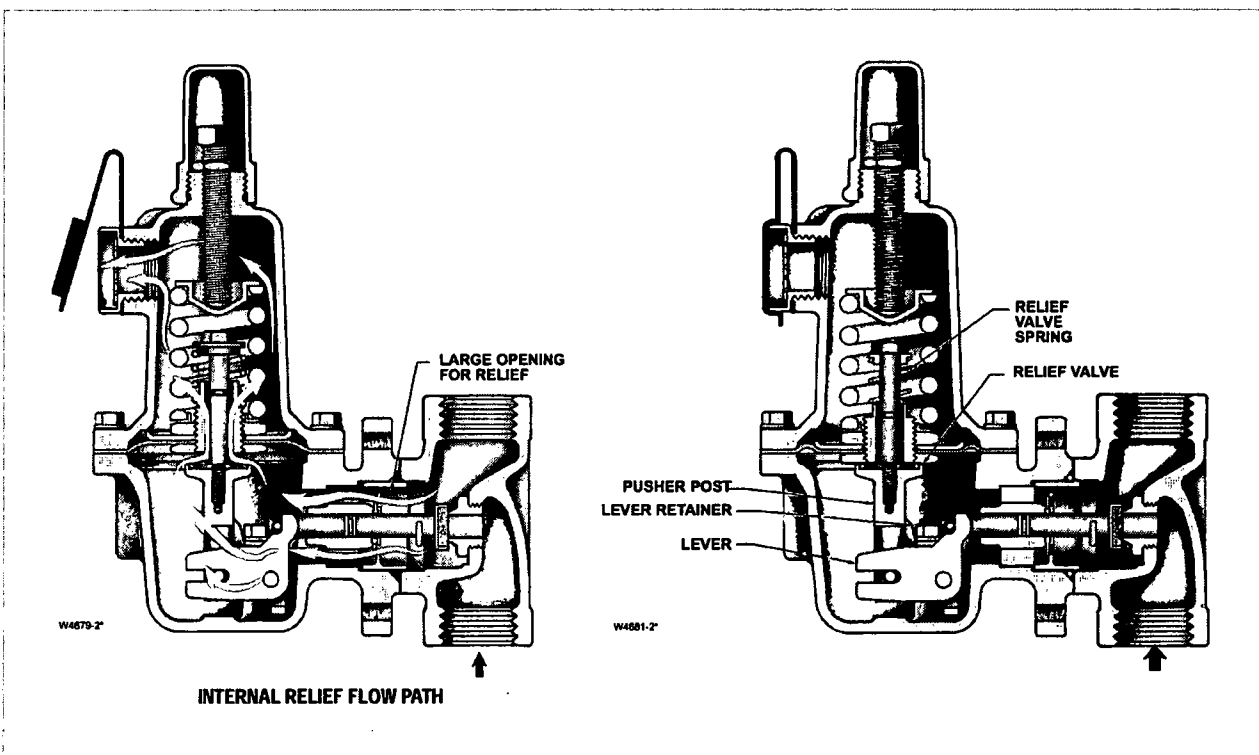

Figure 5. Type 627R Construction Details
**Type 627R:** Type 627 with internal relief and open throat (figure 5)
The Type 627R internal relief performance values (table 3) were obtained by removing the disk assembly from the regulator, see figure 8. For the Type 627R or 627MR regulator, the internal relief across the diaphragm (figure 5 or 6) provides overpressure protection in many applications. As outlet pressures build up above the start-to-discharge point, the diaphragm moves off the relief valve seat allowing the excess pressure to bleed out through the screened vent.